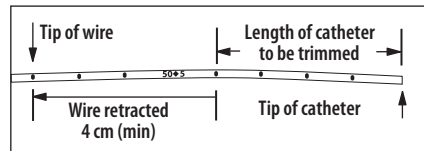

Figure 5
- To trim catheter with Catheter Trimmer, retract placement wire 1-1/2 inches minimum (4 cm) behind where catheter is to be cut (refer to Figure 5). The placement wire is to be withdrawn through the septum.